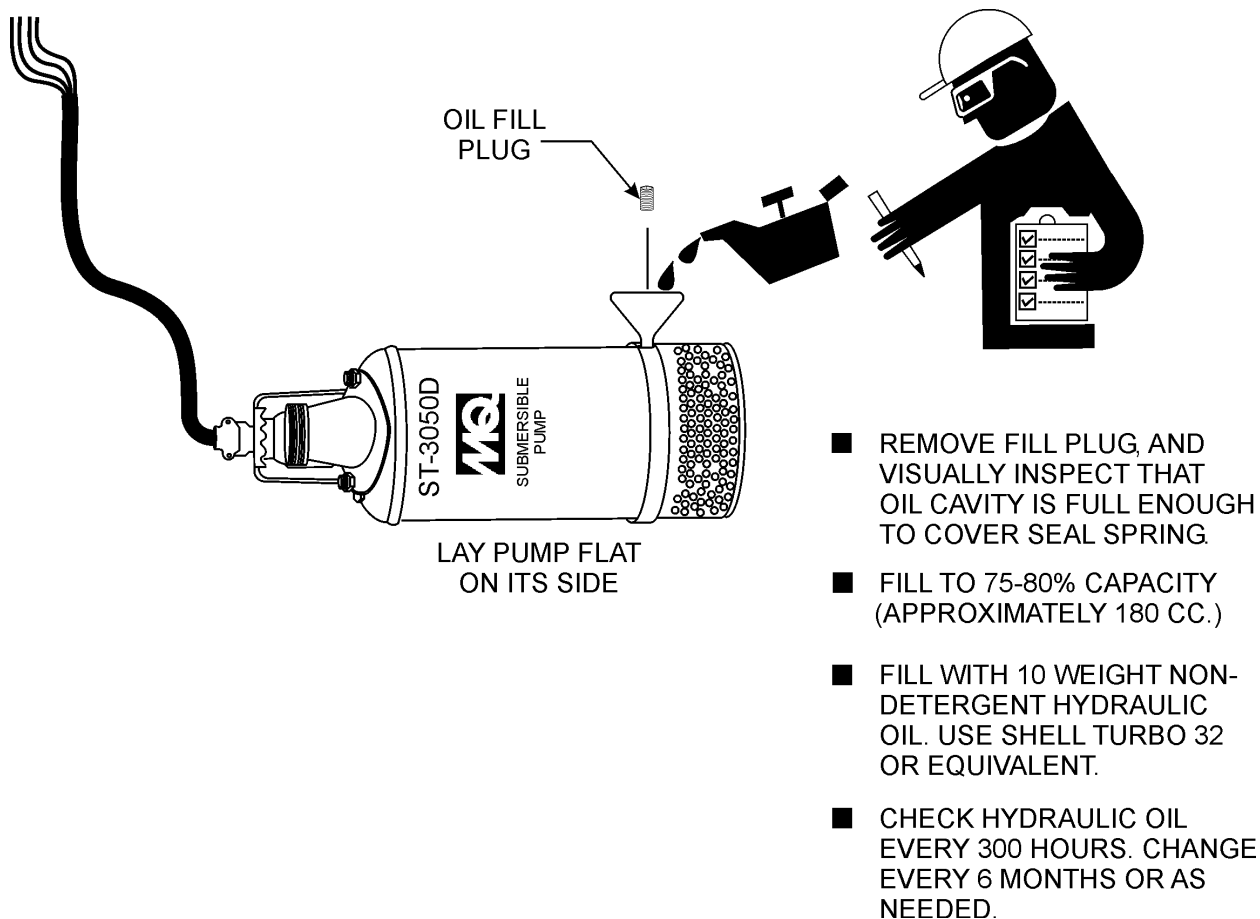

Figure 20. Checking Hydraulic Oil
1. Lay the pump (Figure 20) on its side with the oil plug facing upwards.